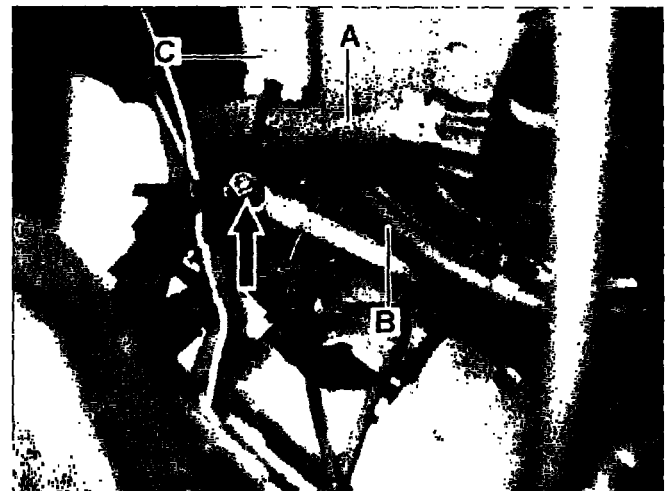

Figure 24
- Ensure wiring harness (A, Figure 24) touches the bracket (C, Figure 24) and is mounted there *tension free*.
- Ensure wiring harness (A, Figure 24) and water hose (B, Figure 24) are not touching each other.
- Ensure tightening torque on ground terminal stud (arrow, Figure 24) is **between 7 and 10 Nm**.